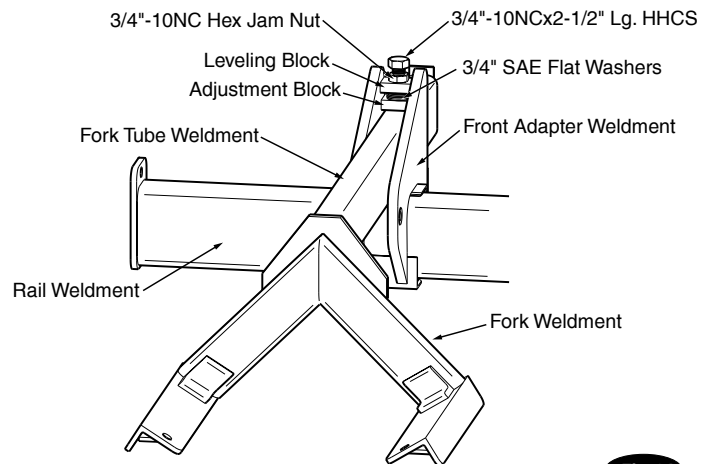

Fig. 34
2. Put 3/4"-10NC Jam Nut on 3/4"-10NC x 2-1/2" Lg. HHCS, tightening until the nut is close to the bolt head, see Fig. 34.